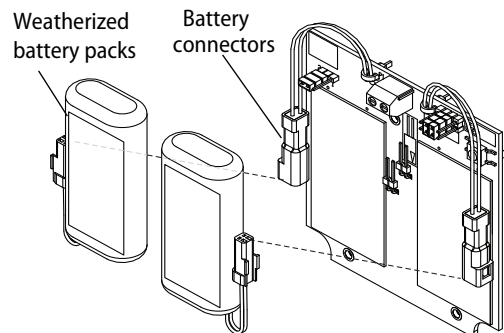

Figure 5 Weatherized battery packs
- 2 Install the batteries. Pay special attention to the polarity of the batteries. (For weatherized battery packs, simply connect the wires from the battery packs to the circuit board. See Figure 5.)